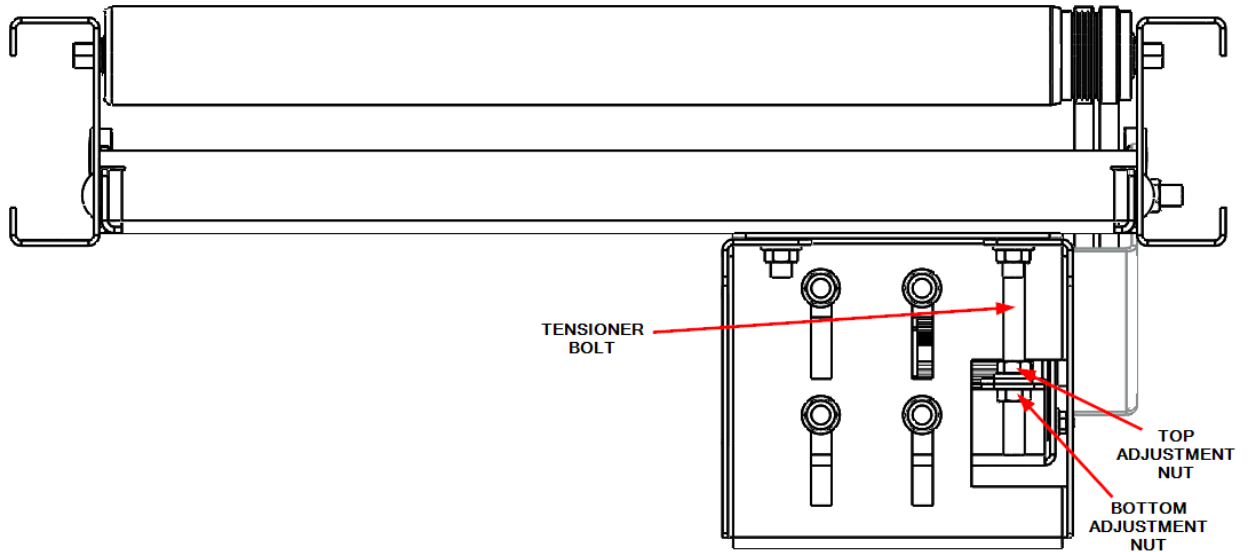

Figure 42: RLVDC Motor Drive Band Tensioner Bolt
4. Using the top nut on the tensioner bolt shown in Figure 42, move the motor mount assembly towards the conveyor to relax the tension on the drive bands.
8. Using the top and bottom nuts on the tensioner bolt as shown in Figure 42, move the motor mount assembly away from the conveyor to tension the drive bands.
9. Torque the four bolts on the motor mount to 31ft-lbs as shown in Figure 42.